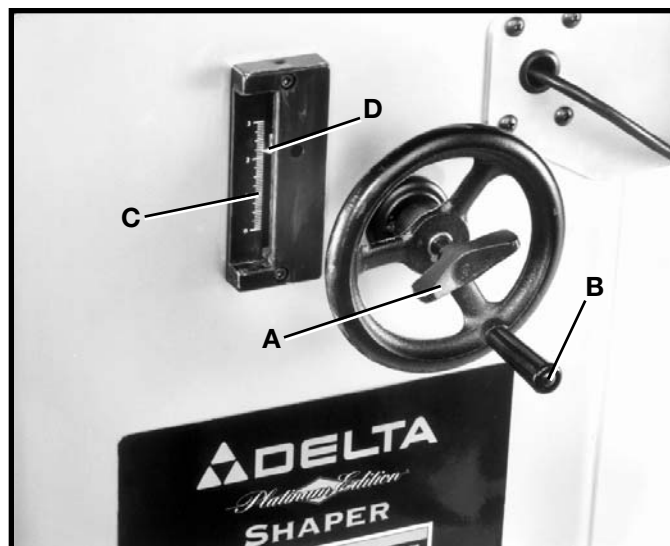

Fig. 45
The spindle can be raised or lowered by loosening lock knob (A) Fig. 45, and turning handwheel (B). To raise the spindle height, turn the handwheel (B) clockwise. To lower the spindle height, turn handle (B) counterclockwise.
The scale (C) Fig. 45, indicates the spindle travel range from 0 to 3" and is marked in 1/16" increments. Minor cutter height adjustments can be measured using the pointer (D) along the scale (C). **CAUTION:** Always tighten lock knob (A) after adjusting spindle height.